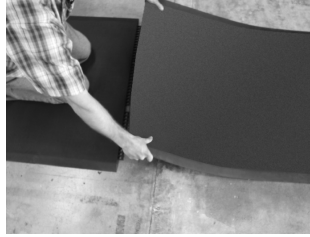

Fig.5
4. Kneel or squat on the first runner section with the connector tabs in front of you and pull the next runner section towards you until its edges align with the edge of the first runner section. (Figure 5)